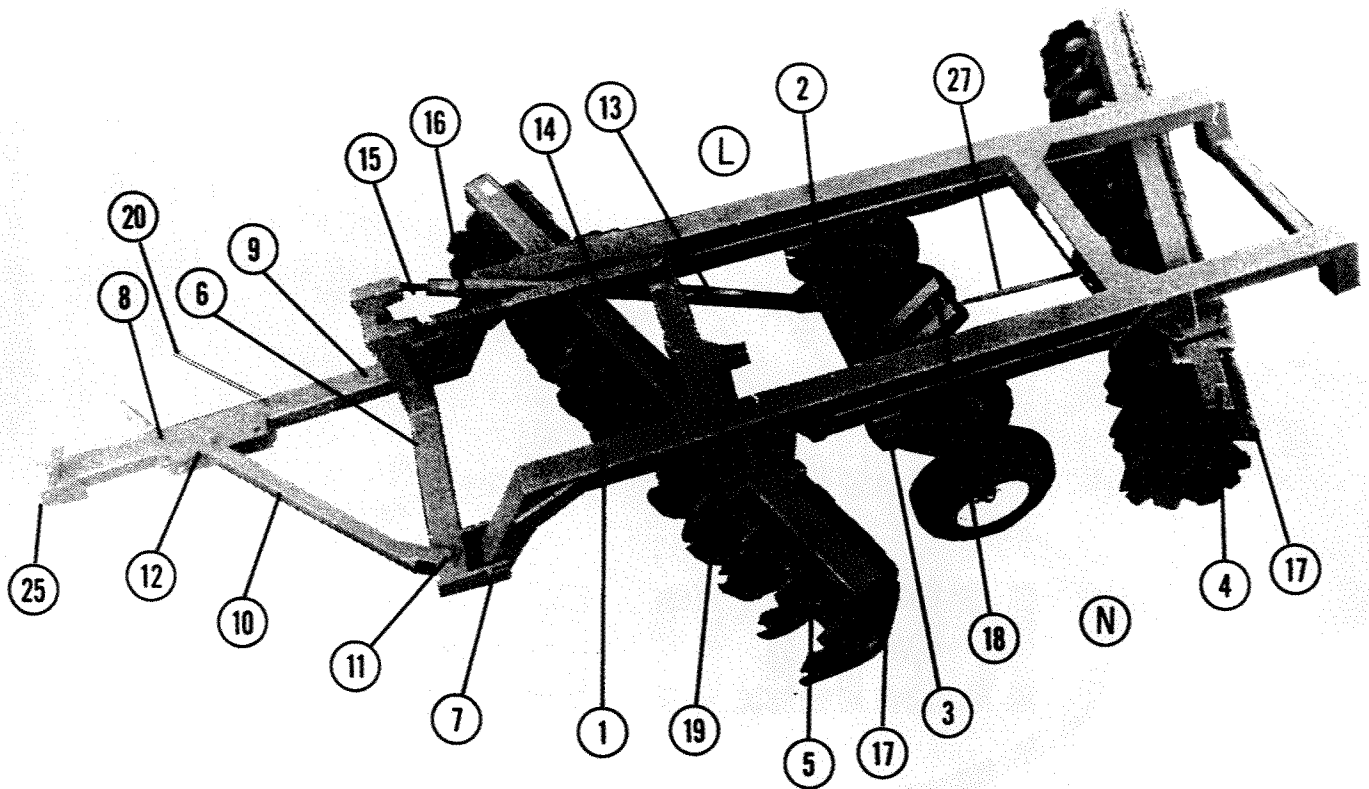

Figure 1
1. **To Install Wheel Carriage and Wheels:** (Refer to Figure 1) Place wheel carriage(2) under the main frame(1) and attach frame with pins(3). Install 5/16 x 2 lock bolts in pins and tighten lock nuts securely. Install wheels on to hubs with wheel bolts provided and tighten securely.
2. **To Attach Gang Bars to Frame:** (Refer to Figure 1) Bolt rear gang bar(4) to main frame(1) in center set of offsetting holes and in next-to-maximum angle with $\frac{7}{8}$ x 3 1/2 bolts. Install leveling washers on top of angling plates on long side of disc(L). Install leveling washers between gang bar and angling plates on narrow side of disc(N). Bolt front gang bar(5) to main frame in next to maximum angle with $\frac{7}{8}$ x 3 1/2 bolts. Install leveling washers same as rear gang.
3. **To Attach Hitch Bridle to Frame:** (Refer to Figure 1) Place bridle(6) at front of frame(1) and attach with pins(7). Install lock bolts and tighten nuts securely.
4. **To Attach Hitch Pole to Bridle:** (Refer to Figure 1) Attach main hitch pole(8) to bridle(6) at lead corner(9) with 1 x 6 bolt. Attach hitch side arm(10) to opposite side of bridle(11) with 1 x 6 bolt. Join hitch pole and side arm with 1" pin at adjustable eye bolt(12). Tighten all bolts securely.
5. **To Attach Fore-Aft Leveling Assembly:** (Refer to Figure 1) Install short tube(13) to wheel carriage with 1" pin. Install long tube(14) with 1" pin. Slide short fore-aft eye bolt(15) into bottom tube(13) (pinned to wheel carriage) and pin to bottom hole of bridle mast(6). Slide long fore-aft eye bolt c/w spring and washers into top tube(14) (attached to main frame) and pin to top hole of bridle mast(6).
6. **To Attach Scrapers:** (Refer to Figure 1) Attach scraper bars(17) to gang bars (4 & 5) with carriage bolts provided. Attach scrapers to scraper bar with clamps and bolts provided use care to adjust scrapers close to discs but not rubbing.
7. **To Double Wide Right and Left Hand Offsets:** (Refer to Double Wide drawing). Set together following regular instructions except item No. 4 - to attach hitch pole to bridle - the hitch pole is attached to the opposite side from the lead corner and the side arm is attached to the lead corner with 1 x 6 bolt. Set left hand disc(1) stationary and pull right hand disc(1) along side leaving front gang of right hand disc behind front gang of left hand disc. Attach rear spreader bar(5) with pins. Attach front spreader bar(6) with pins. Join right hand main hitch pole to left hand main hitch pole(3) with 1 1/4" pin(7). Adjust swivel flapper with 1 x 6 bolt for proper direction(8).
- 1. Hydraulic Cylinder and Hoses:** (Refer to Figure 1) A standard 8" stroke double acting hydraulic cylinder is required to lift disc. Two 18 ft. hydraulic hoses are needed to allow full offsetting and turning without hose damage.
- 2. Angle Changing:** (Refer to Figure 1) To change angle. Raise disc on wheels until discs are clear of ground. Remove bolt(21) and loosen the three remaining bolts. Slide gang bar forward or backward as desired. Replace bolt and tighten all bolts securely. For ordinary conditions set both front and rear gangs in next to maximum angle. Increase angles as required to suit conditions.
- 4. Offsetting The Hitch:** (Refer to Figure 1) This unit is designed to trail straight behind the tractor. Minimum side draft will be obtained when the hitch is in line with outside beam of main frame. If more adjustment is required screw hitch side arm eye bolt(12) to desired position, then retighten jamb nut to reduce pressure on eye bolt thread.
- 5. Hitch Height:** (Refer to Figure 1) The hitch pole should always be as near level as possible when discing. Flapper hitch(25) can be raised or lowered to proper tongue level of tractor. (Not adjustable on Series 250)
- A. Front to Rear:** (Refer to Figure 1) With disc raised and hitch to tractor, adjust bottom fore-aft eye bolt(15) until main frame is level. Adjust fore-aft spring lock(16) until spring is snug. The top spring should be under some compression when discing, but should never be compressed solidly. **NOTE:** In general use as little pressure as possible when discing.
- 7. Transporting:** (Refer to Figure 1) Disc may be transported without using hydraulic cylinder. Place the rod(27) through the hole in anchor on frame(1) and place clevis over transport block. Raise the disc until the cylinder has reached the end of its stroke. Insert pin in clevis and adjust transport rod nut until there is about 1/8" between nut and transport anchor. Release pressure on hydraulic cylinder and remove. **CAUTION:** Extreme care should be taken not to collapse the cylinder too much with the transport rod in transport position.